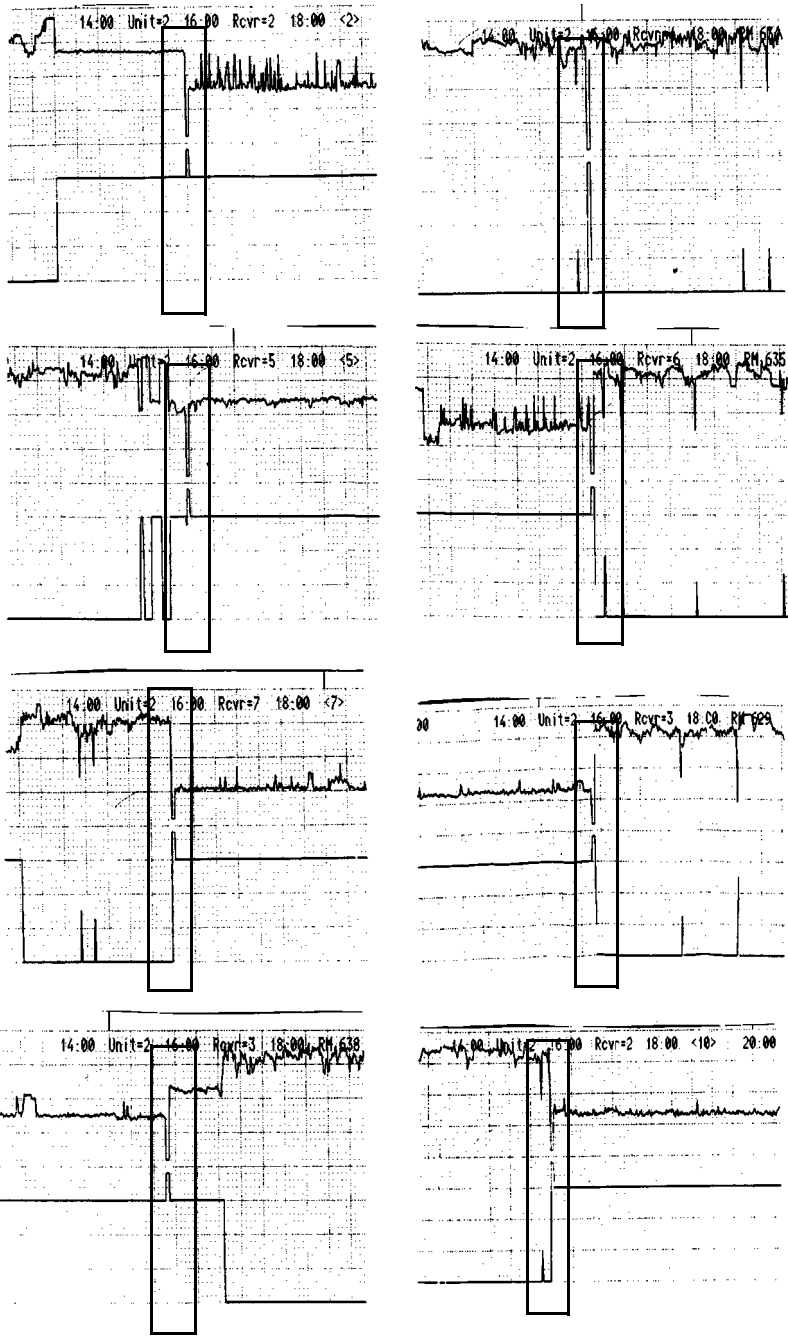

Figure 4-13 Example of a Marker to Separate Bed Data
6. **Marker between receivers:** The end of the RF History Strip for one receiver and the start of the strip for the next receiver is indicated by a short marker. (See Figure 4-13 for examples.)